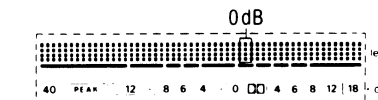

Fig. 19
9. At this time, check that 0dB indicator is dimmed (intermediate brightness between full brightness and light-out: See fig. 19).